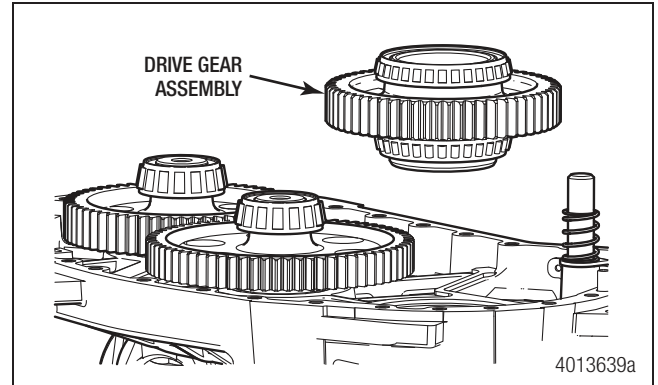
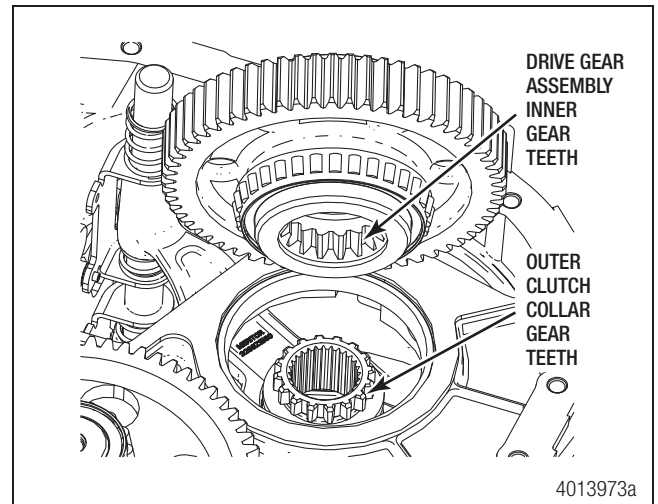

Figure 7.20
Figure 7.21
1. Line up the internal gear teeth on the input drive gear assembly with the gear teeth on the clutch collar and install the gear assembly in the front case half. Figure 7.20 and Figure 7.21.